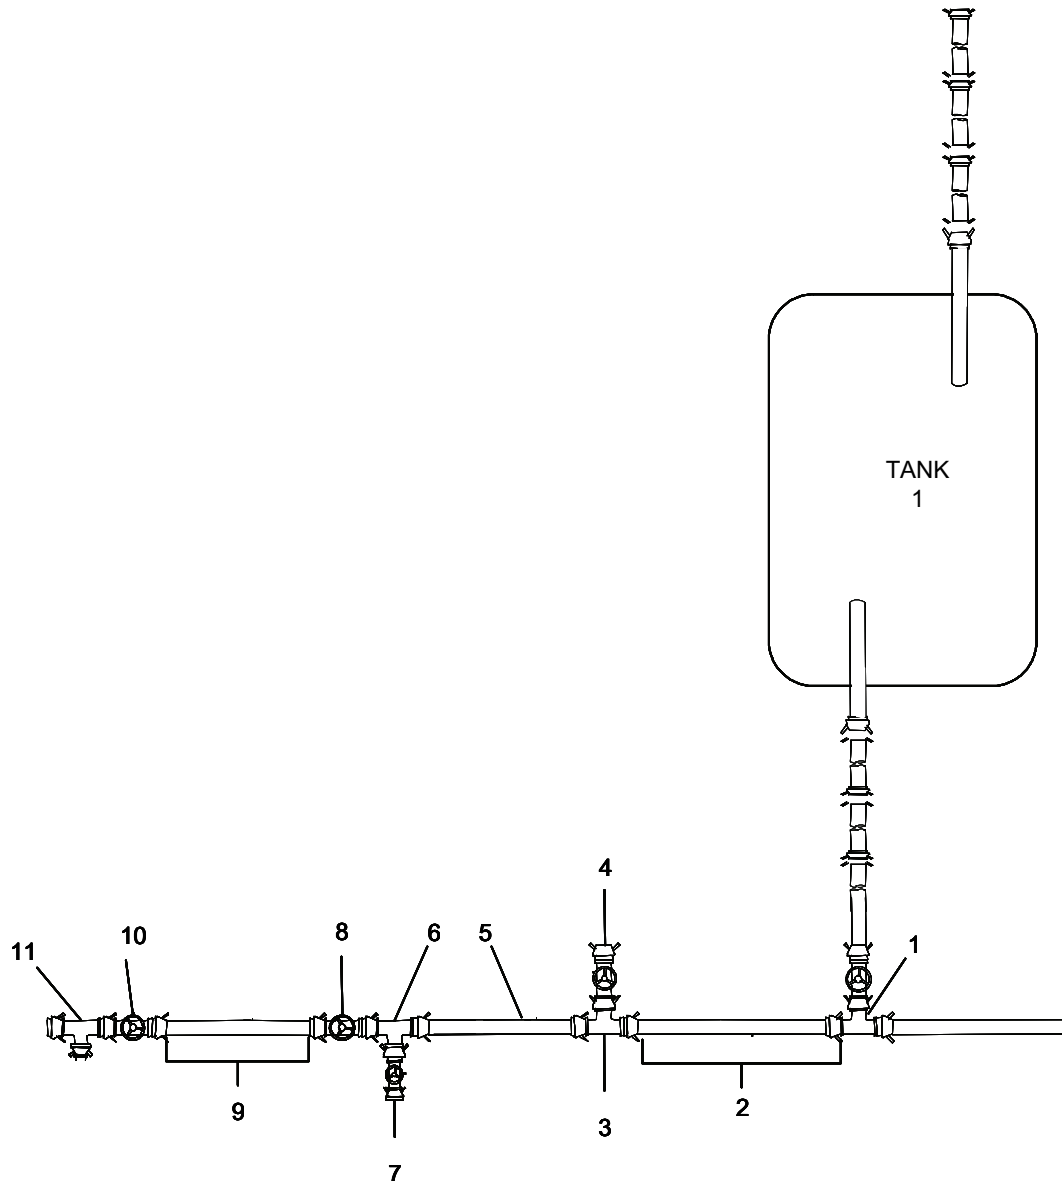

Figure 4. Installation Receipt Line.
2. Connect the two sections of discharge hose (Figure 4, Item 2) to the 6 in. female x 6 in. male x 6 in. male tee assembly (Figure 4, Item 1) from tank.
4. Connect the end of the discharge hose (Figure 4, Item 2) to the 6 in. female x 6 in. male x 6 in. male tee assembly (Figure 4, Item 3).
6. Connect the 6-inch gate valve (Figure 4, Item 4) to the male port of the tee assembly (Figure 4, Item 3).
8. Connect the section of discharge hose (Figure 4, Item 5) to the tee valve assembly (Figure 4, Item 3) pointing towards the pumping assembly.
10. Connect the female end of the 6 in. x 10 ft discharge hose (Figure 4, Item 5) to the 6 in. male x 6 in. female x 4 in. female tee valve assembly (Figure 4, Item 6).
13. Connect the 4 in. gate valve (Figure 4, Item 7) to the tee assembly (Figure 4, Item 6) towards the fuel additive injector.
14. Connect the 6 in. gate valve (Figure 4, Item 8) to tee assembly (Figure 4, Item 6).
16. Connect the four sections of discharge hose (Figure 4, Item 9) together.
17. Connect the four sections of discharge hoses (Figure 4, Item 9) to the gate valve (Figure 4, Item 8).
19. Connect 6 in. gate valve (Figure 4, Item 10) to discharge hoses (Figure 4, Item 9).
21. Connect the tee assembly (Figure 4, Item 11) to the gate valve (Figure 4, Item 10).